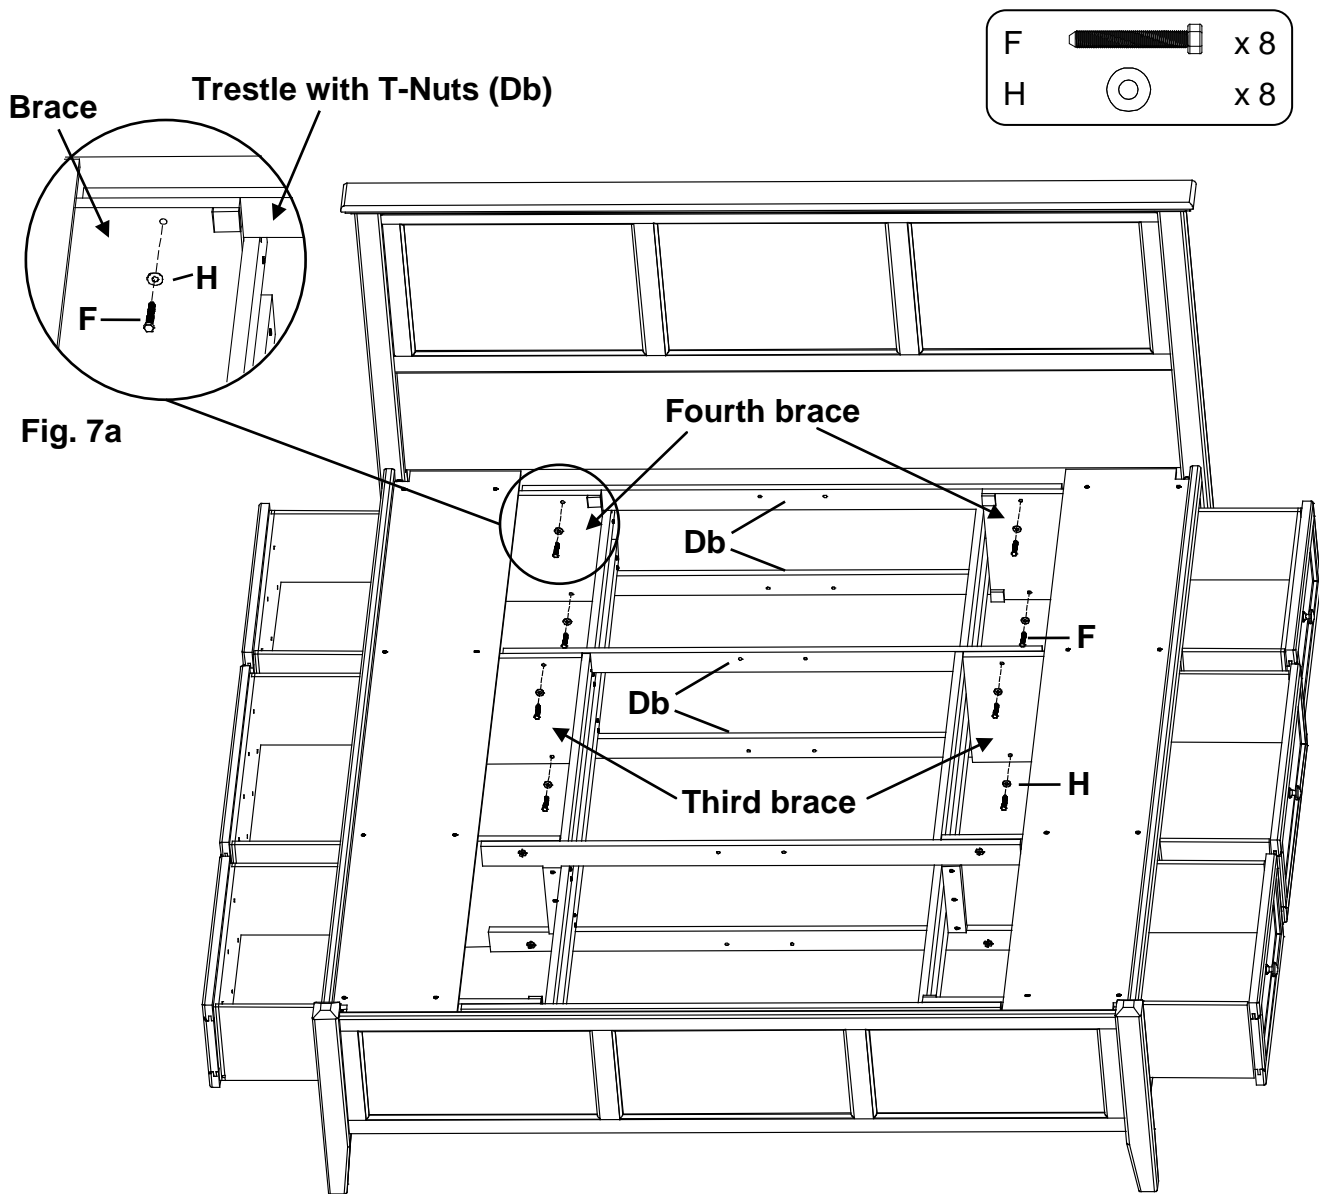

Fig. 7
7. Face the Headboard and stand in between the third and fourth braces. Place a Trestle with T-Nuts (Db) on the outside surfaces of the third **upper** left and right braces so the T-nuts sit near the top. See Figures 7 and 7a. Line up the upper edges of the trestle and braces so they are nearly flush. Insert two 1/4" x 1-3/4" Hex Bolts (F) and Washers (H) and tighten.
Place a Trestle with T-Nuts on the outside surface of the third left and right **lower** braces so that the T-nuts sit near the bottom. Line up the bottom edges of the trestle and braces so they are nearly flush. Insert two 1/4" x 1-3/4" Hex Bolts (F) and Washers (H) and tighten. See Figures 7 and 7a.